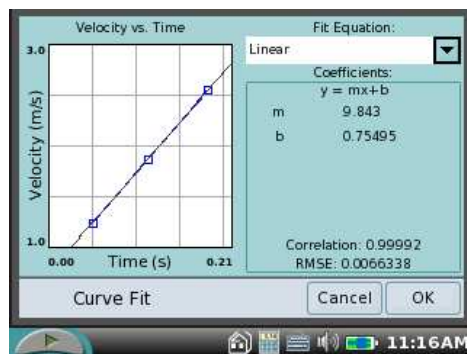

Fig 2
- Select Linear from the Fit Equation field.The screen now shows the equation of the line $y = mx + b$ (Fig.2).